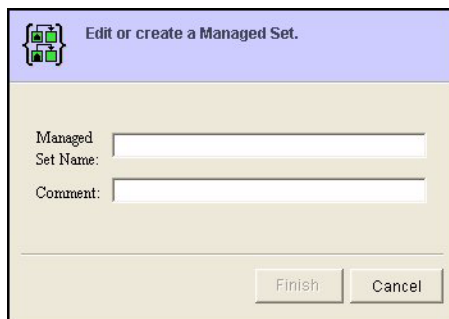

Figure 30: Edit or Create a Managed Set window
1. Choose **Create > Managed Sets**. The Edit or create a Managed Set window opens (Figure 30).